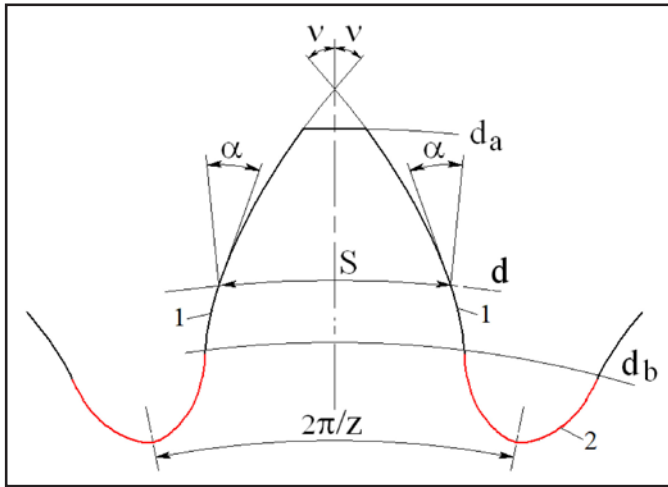

Figure 3 Gear tooth profile construction.
This method describes a symmetric gear tooth (Fig. 3) as formed by two involute flanks (1) of the base circle diameter d_b , an arc distance between them represented by the tooth thickness S at the reference diameter d , the tooth tip diameter d_a and the root fillet (2).